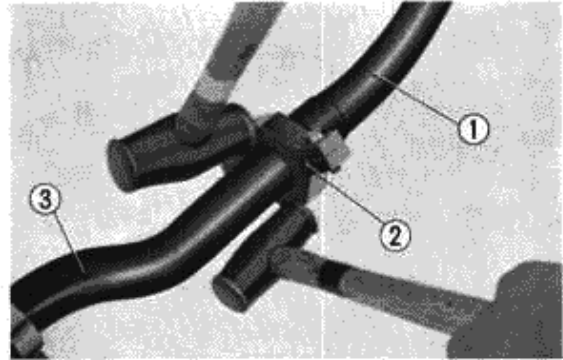

Fig. 14-2 ① Exhaust Silencer A
11. Loosen the exhaust pipe joint clamp. Separate the exhaust joint pipe from the exhaust silencer A with the exhaust pipe adapter (special tool) as shown in Fig. 14-2.